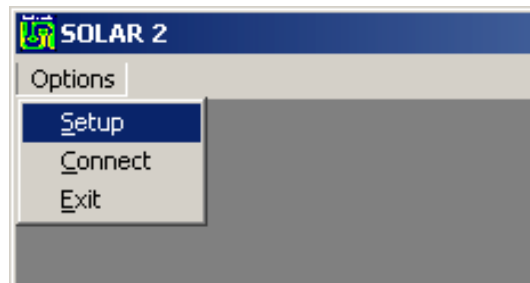

Figure 3. Options Menu.
- 1.2. From the menu bar select Options > Setup (see **Figure 3** below). The ‘ET Setup’ window will be displayed.